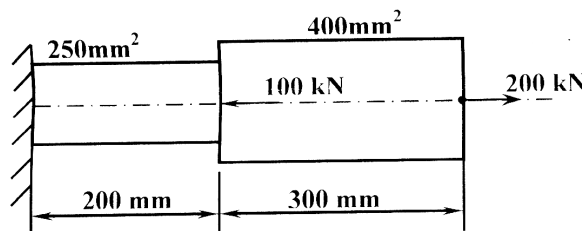

Fig. Q 6 ✓
6. A stepped bar member is loaded as shown in Fig.Q.6. Determine the nodal displacement, stresses in each bar and support reactions. Use Penalty method to handle the boundary conditions. Take $E = 200 \text{ GPa}$.